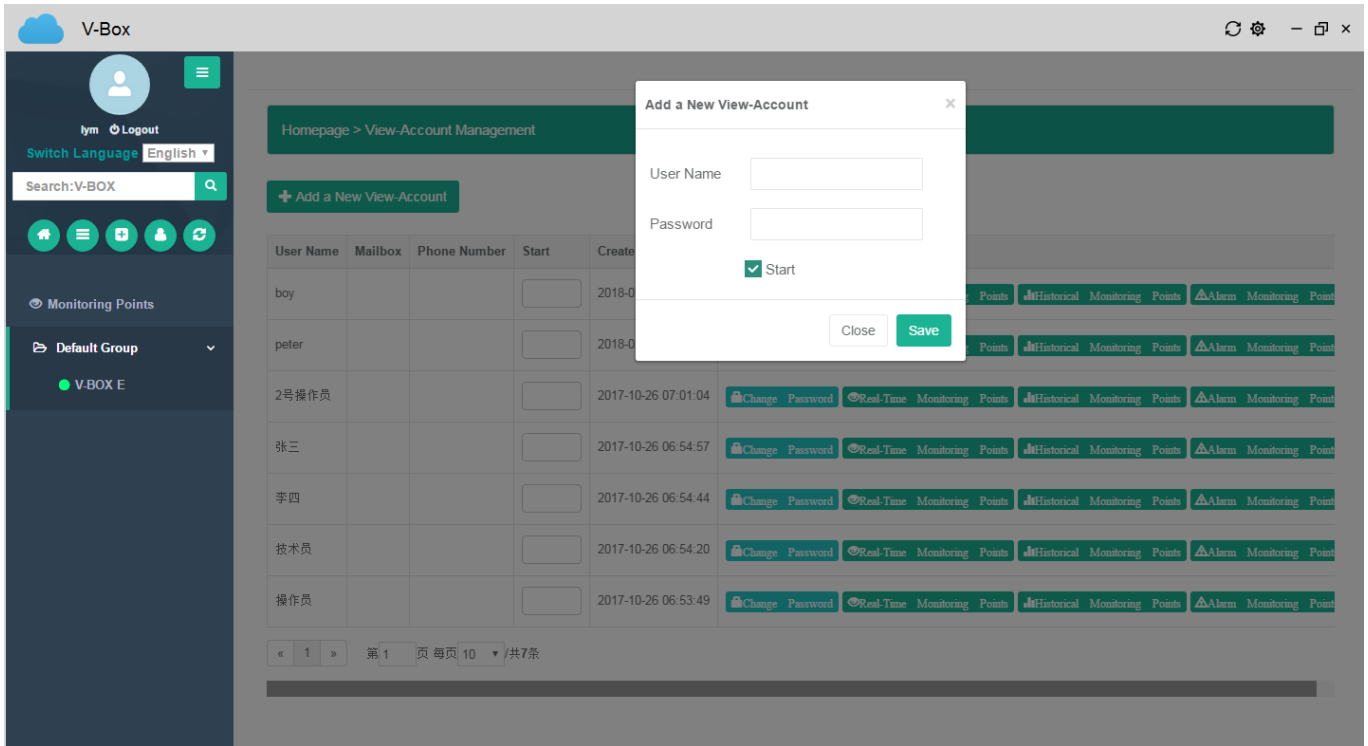

Figure 5-3
(1) “Sub-account” have two status : “enable” and “disable”. When adding a sub-account, you need to fill in the account number and password of the sub-account, or you can select whether to enable the sub-account immediately, as shown in Figure 5-3.